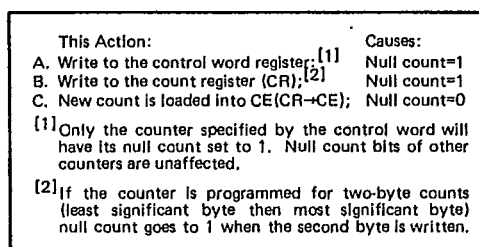

Figure 10. Null Count Operation
NULL COUNT bit D_6 indicates when the last count written to the counter register (CR) has been loaded into the counting element (CE). The exact time this happens depends on the Mode of the counter and is described in the Mode Definitions, but until the count is loaded into the counting element (CE), it can't be read from the counter. If the count is latched or read before this time, the count value will not reflect the new count just written. The operation of Null Count is shown in Figure 10.